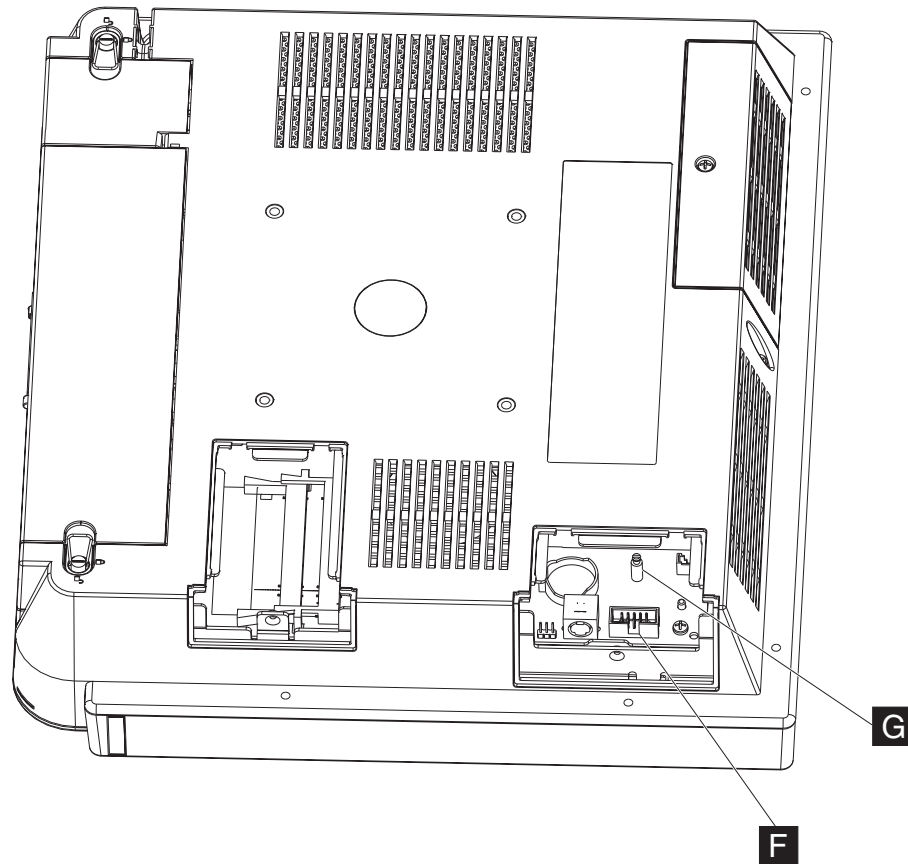

Figure 9. Location of the flash drive
2. Press the flash drive down onto the connector (**F** in Figure 9) and support post (**G**), and latch it into place.